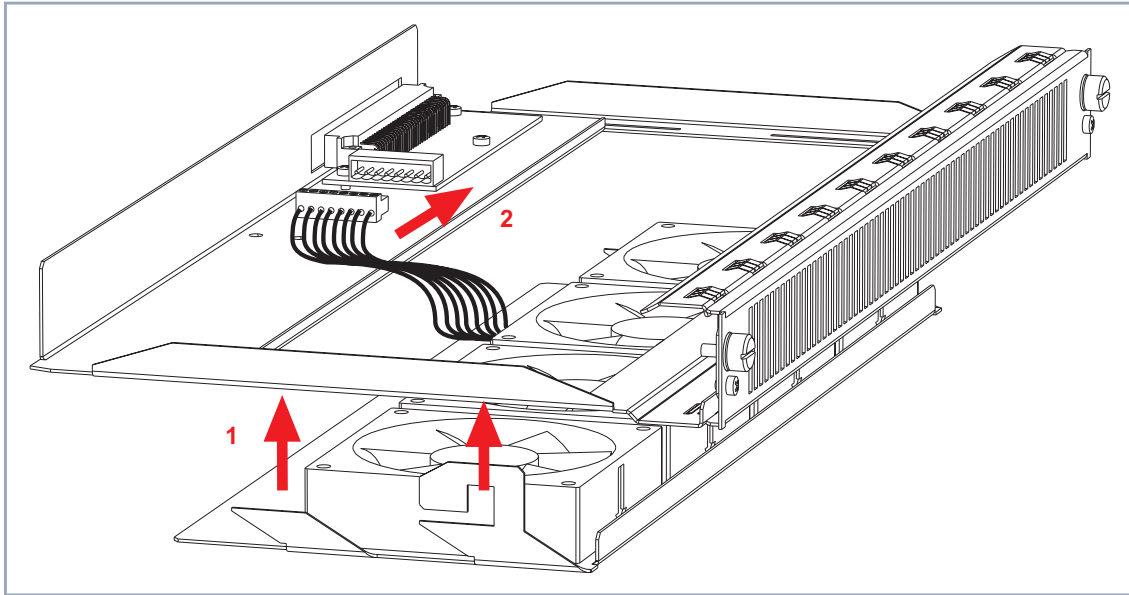

Figure 4-12: Inserting the fan insertion into the fan cassette
- Insert the fan insertion into the fan cassette as shown in figure 4-12, page 50, arrow no. 1.
- Connect the fan insertion plug to the fan cassette as shown in figure 4-12, page 50, arrow no. 2.
- Insert the new fan insertion into the fan cassette as shown in figure 4-12, page 50, arrow no. 1.